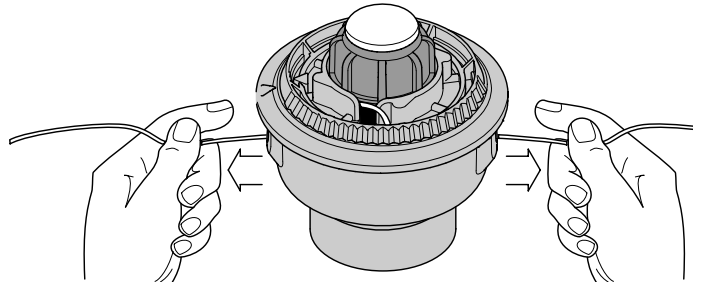

Fig. 46
9. If winding the line becomes difficult or if the line jams, pull the ends of the line from the spool (Fig. 46). Continue winding the inner reel counterclockwise until approximately 6 inches of line is left.